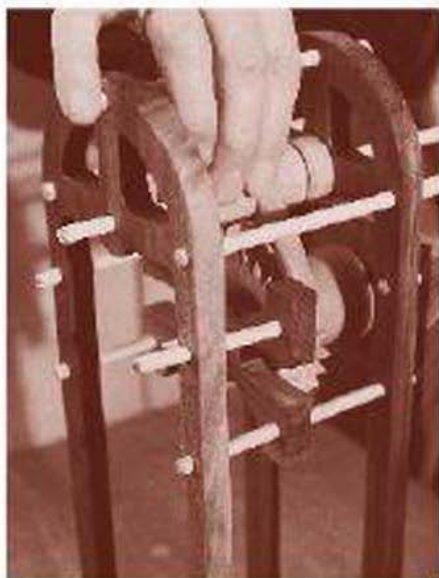

FIGURE 13-19
- 8** The movement of the anchor escapement in relation to the teeth on the wheel is critical, so spend time making fine adjustments (Fig 13-19).